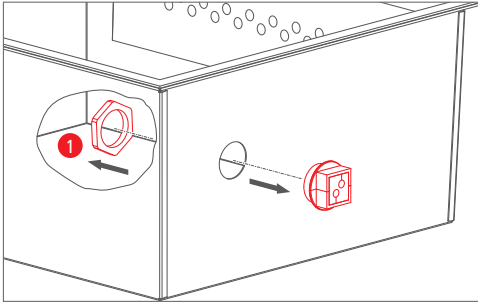

Fig. 3 Remove cable gland
2. Next, unscrew the union nut (1) of the cable gland on the inside of the RETRON BOX (Section 5.1, Fig.3)!
3. Pull the cable gland outwards to remove (see Fig. 3)!
10. From the outside, push the cable gland into the hole in the RETRON BOX (see Fig. 3)!
12. Screw the union nut (1) of the cable gland on the inside of the RETRON BOX back on (see Fig.3)!